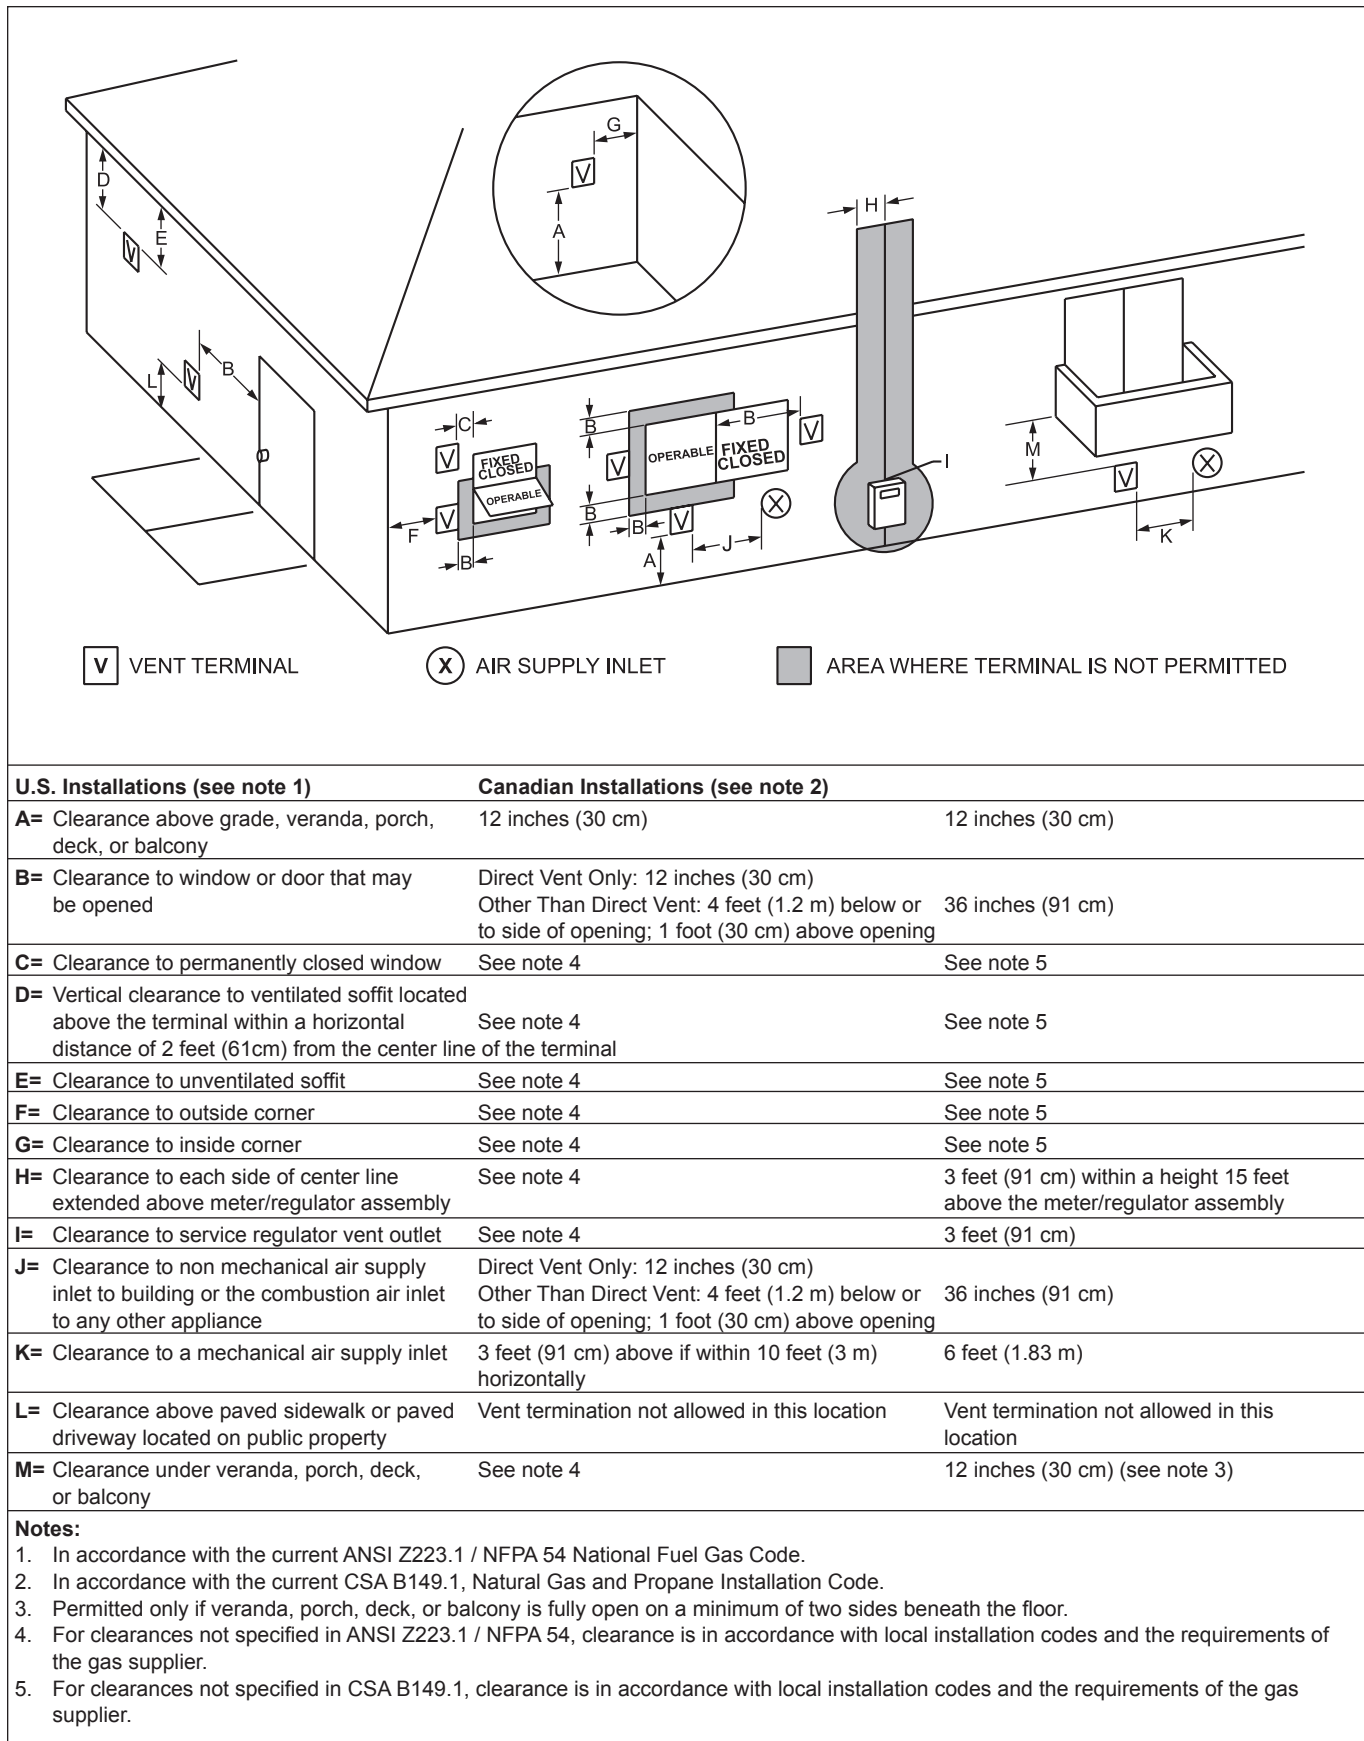

Figure 3. Vent Terminal Clearance.
1. Figure 3 shows the requirements for mechanical vent terminal clearances for the U.S. and Canada.
4. If the Mighty Stack is side-wall vented to the same wall, locate the vent terminal at least 3 feet (0.9m) horizontally from the combustion air terminal, and locate the vent terminal at least 1 foot (0.3m) above the combustion air terminal (see Figure 3).